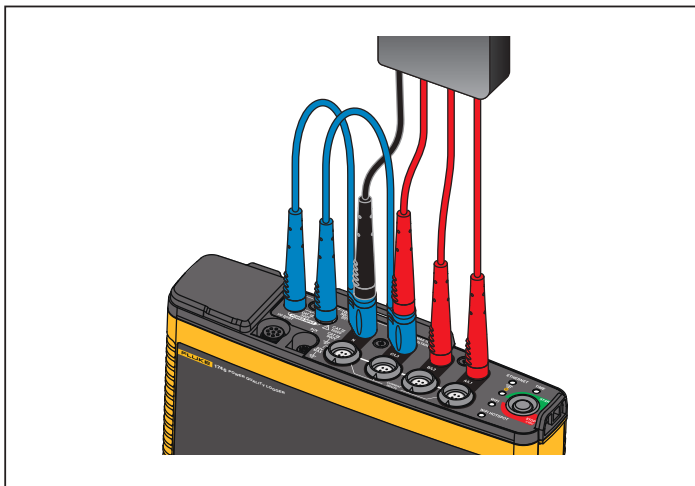

Figure 7. Measurement with Neutral Voltage and Instrument Power Supply
- Connect N with the second input of the power supply. See Figure 7.